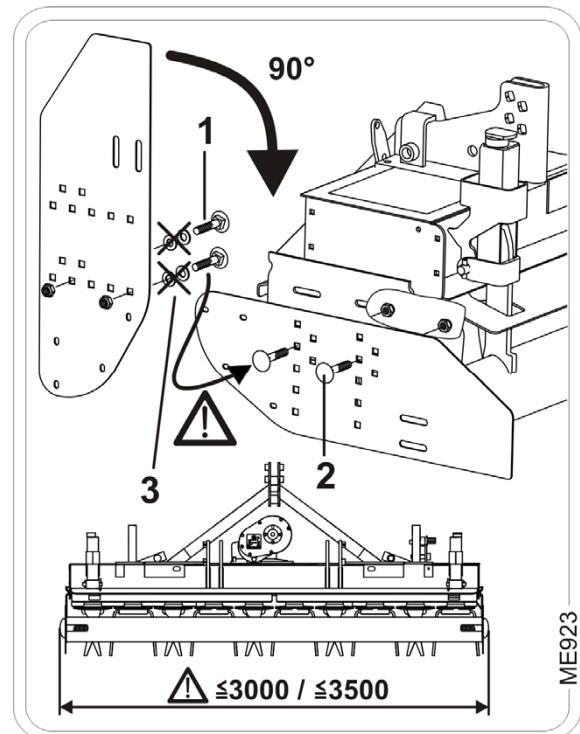

Fig. 72
1. Undo the flat head screws (Fig. 72/1).
3. Insert the flat head screws (Fig. 72/2) into the side panel from the outside and screw on the side panel.
Do not use the (Fig. 72/3) washers.